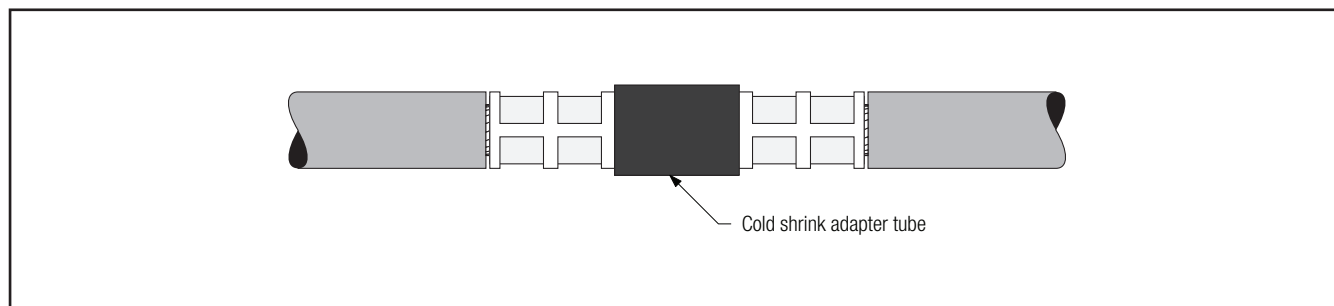

Figure 13
- 4.2 **If using cold shrink adapter tube:** Position adapter tube over the connector. Shrink adapter near center of connector by pulling and unwinding the loose core end in a counter-clockwise direction (Figure 13).